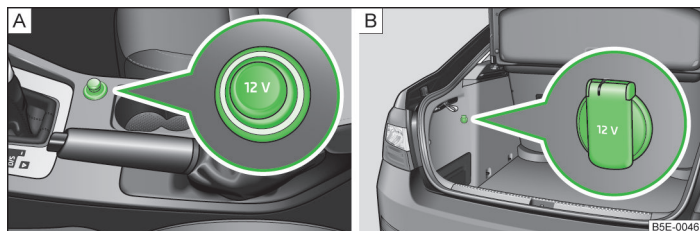

Fig. 66 12-Volt power socket: in the front centre console/ in the boot
In the front centre console » Fig. 66 - [A].
In the boot » Fig. 66 - [B].
- Remove the cover on the power socket » Fig. 66 - [A] or open the cover on the power socket as appropriate » Fig. 66 - [B].